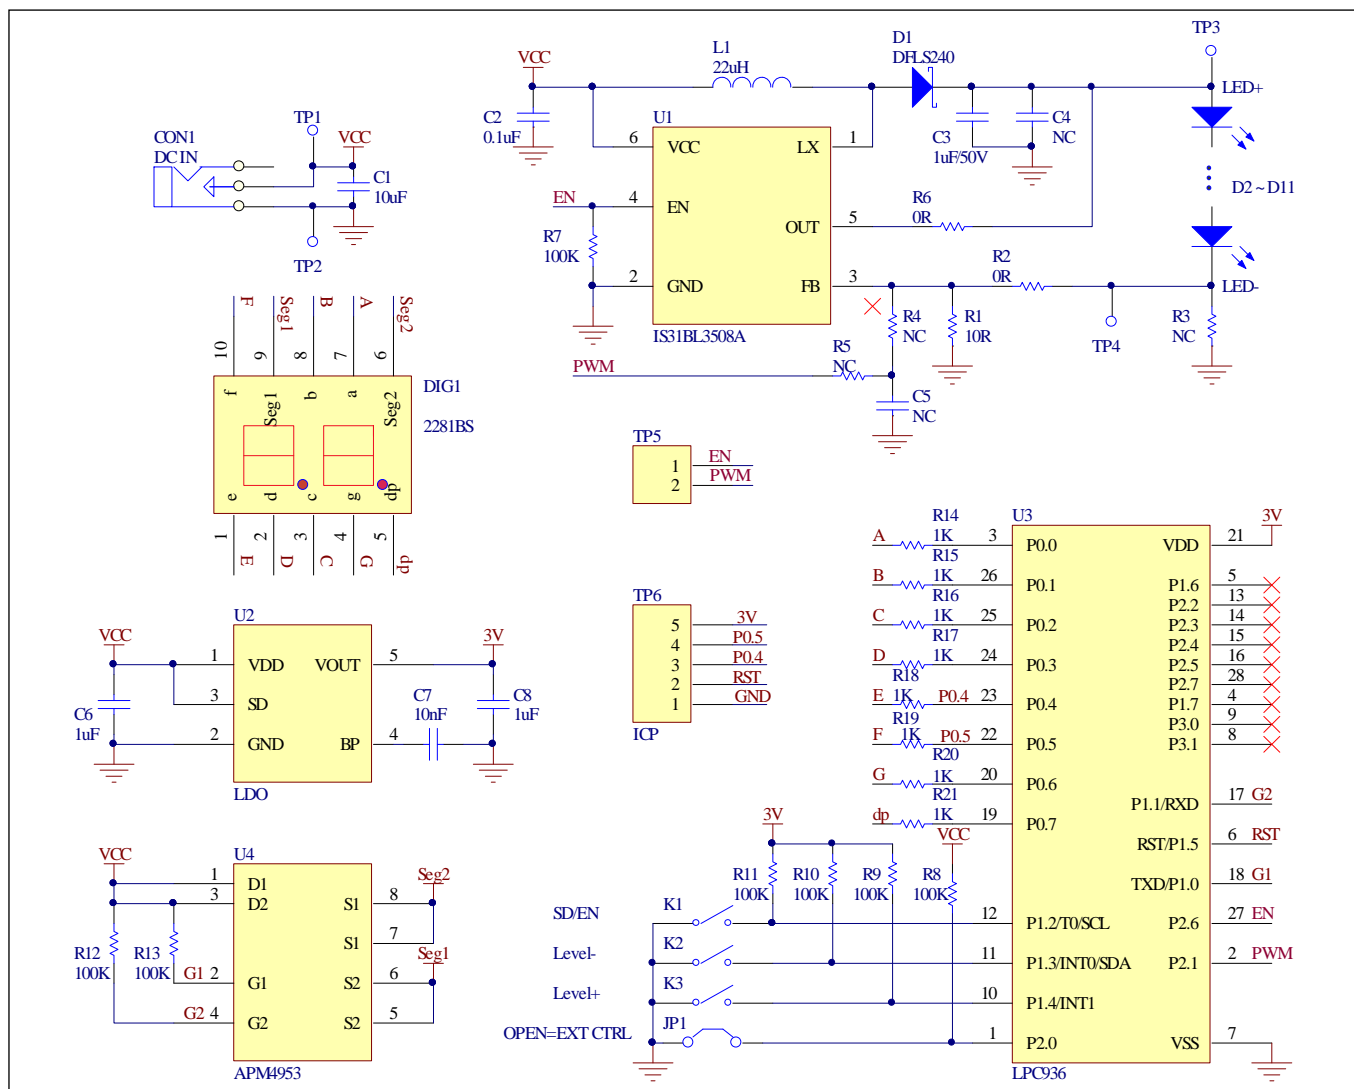

Figure 2: IS31BL3508A Application Schematic
*Bill of materials, refer to Figure 2 above.*